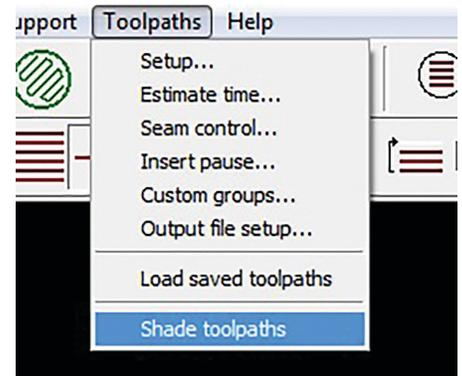

Figure 3: Toolpaths menu.
STEP 6: Under the **Toolpaths** menu, select **Shade toolpaths** (Figure 3).